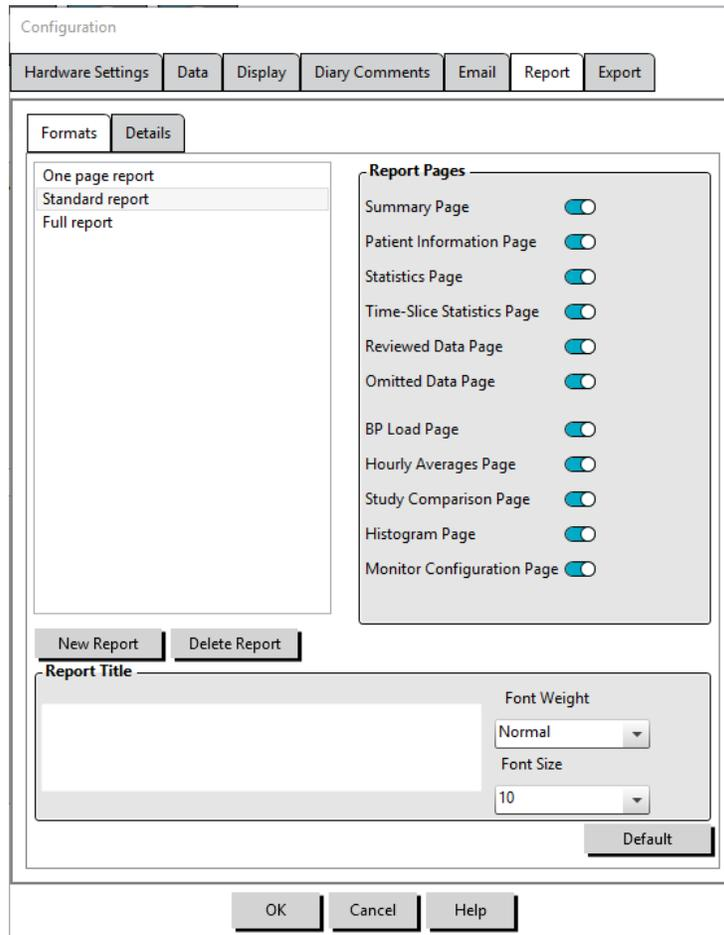

Figure 25: Configuration Window, Report Formats
To display trends in a patient's ABP study, click the Hourly Averages tab at the bottom of the window (Figure 25). The table shows the average BP readings for each hour the patient was tested. In addition to systolic (SYS) and diastolic (DIA), and the heart rate (HR), the following statistical averages are provided:
- Pulse Pressure (PP) - This is calculated by subtracting the diastolic from the systolic reading. It is another hemodynamic parameter that may serve as an indicator for cardiovascular risk.